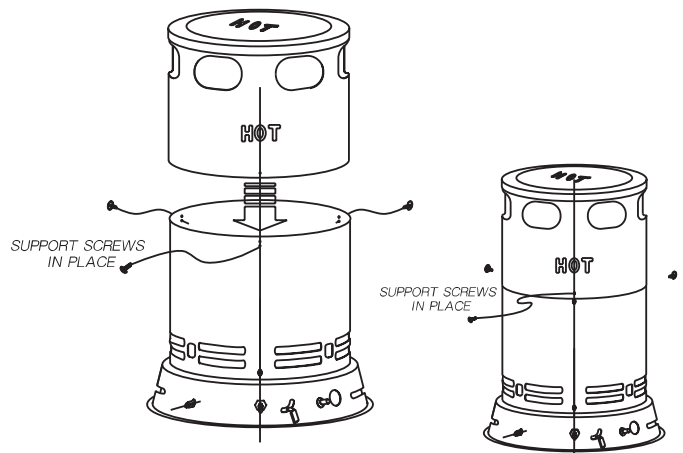

Figure 4: Attach top with four phillips screws. Install control knob.
- Attach 3 (three) of the phillips head screws to the bottom row of holes in the Lower Housing (see Figure 4).
- To connect hose and regulator assembly, rotate fitting on hose/regulator counterclockwise into threads on tank valve (see Figure 4). Be sure to tighten firmly. Important: Be sure to position the regulator so that the regulator is horizontal, also as shown in Figure 4.